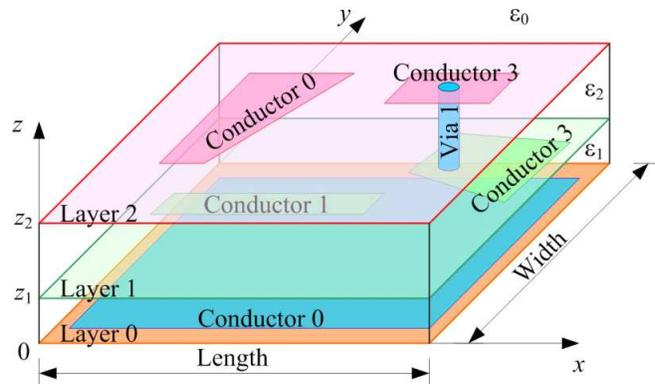

Figure 2.3 Structure analyzed by ES3D.
In the general case, the analyzed structure consists of several dielectric layers, as shown in Figure 2.3. The permittivities of the layers may be equal or they may be different.
- *Footprint dimensions, Length and Width.* The footprint is a rectangle, located in the  $Oxy$  plane of the Cartesian coordinate system, as in Figure 2.3. The coordinates are within the limits  $0 \leq x \leq \text{Length}$  and  $0 \leq y \leq \text{Width}$ . The coordinate origin is in the lower-left corner of the drawing in the ES3D Drawing window. Footprint dimensions are entered numerically when a new project is started, and they can be adjusted later by using the Footprint option in the Project menu.